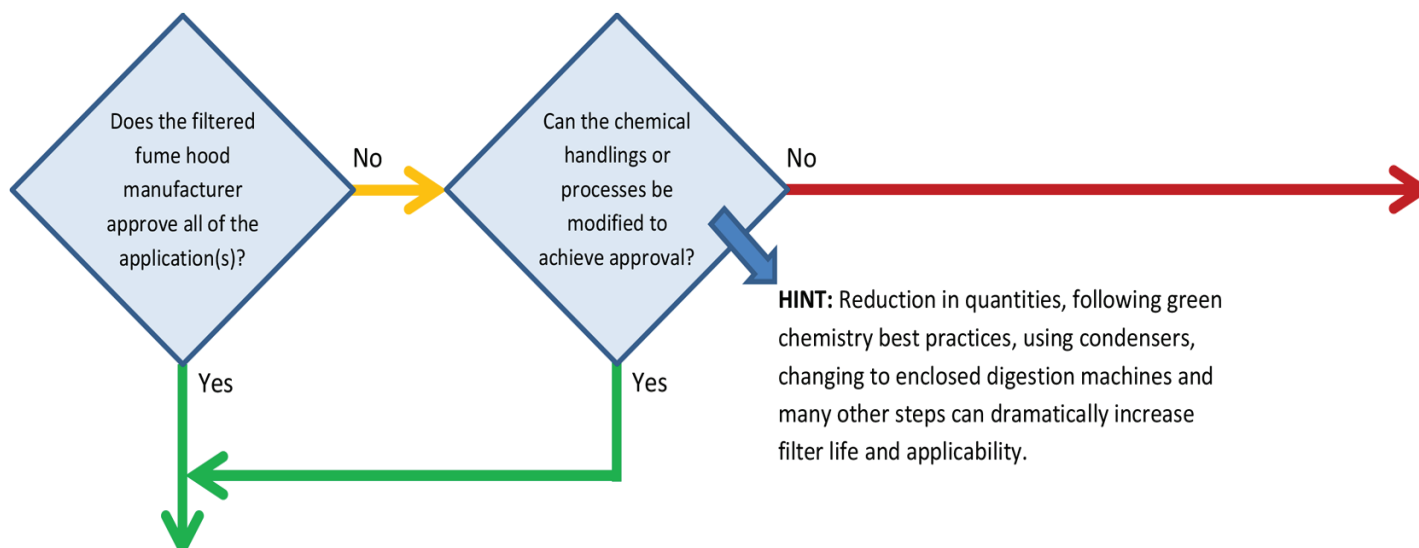

Figure 5: Step 3 - Application Approval or Changes
- 3) The next step is to perform the in-depth chemical analysis (see Figure 5 on page 6).
- c. The review will assess (4) important categories:
- d. If all (4) categories are approved, it is time to move forward to the final verification step. If one or more categories are not approved, then depending upon the category, you may be able to modify the chemical handling to accommodate GFH: